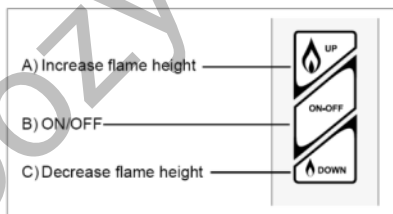

Figure 42 – Optional Touch Pad
- Press button "B" (see Figure 42) until a short beep confirms the start sequence has begun; release button.
- Press and hold button "C" (see Figure 42) to set appliance at pilot flame.
- Press button "B" (see figure 42).
Wall Switch/Touch Pad/Switch Panel (See Figure 42)